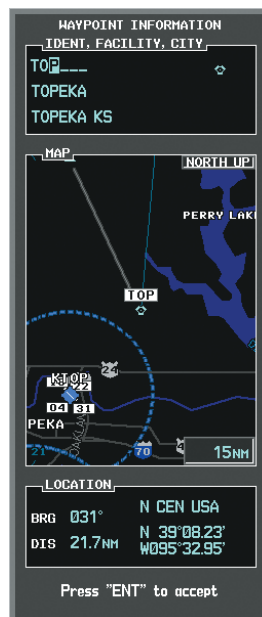

Figure 5-104 Entering V4 Entry Point
- c) Turn the small **FMS** Knob to display the Waypoint Information Window. Enter the desired entry point for V4, Topeka VOR (TOP), as shown in Figure 5-104.